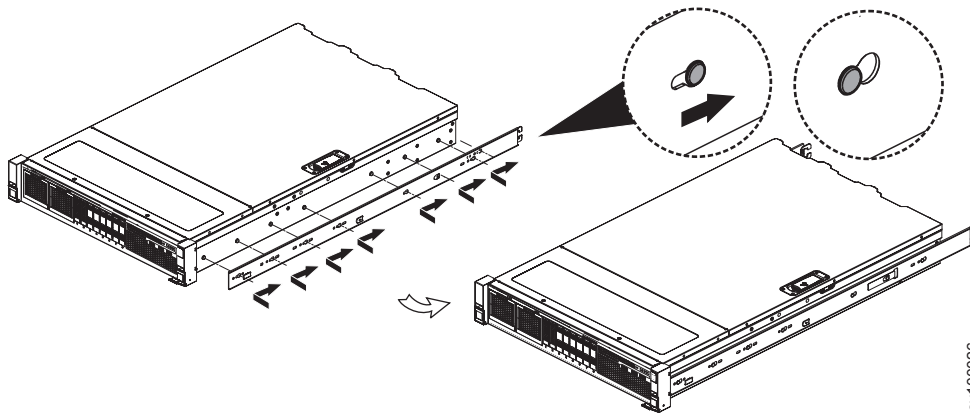

Figure 42. Attach inner rail section to chassis
4. Install the inner section of the rail onto the chassis. No screws are required. Fit the holes in the inner rail section over the heads of the pins on the side of the appliance, then slide the rail toward the rear of the appliance to lock, as shown in Figure 42.